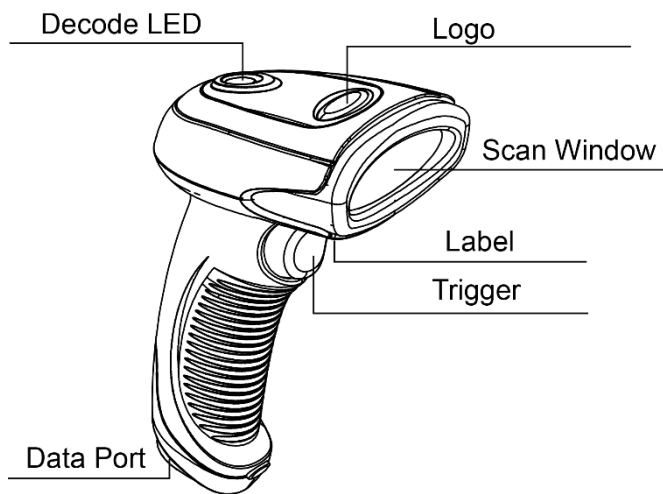

Fig. 1-1
1. Plug the RJ45 connector into the data port (see Fig.1-1) on the HR20 scanner.
1. Plug the RJ45 connector of the cable into the data port (see Fig.1-1) on the scanner.
1. Press and hold the trigger (see Fig.1-1). Then the scanner will project a red aiming beam.